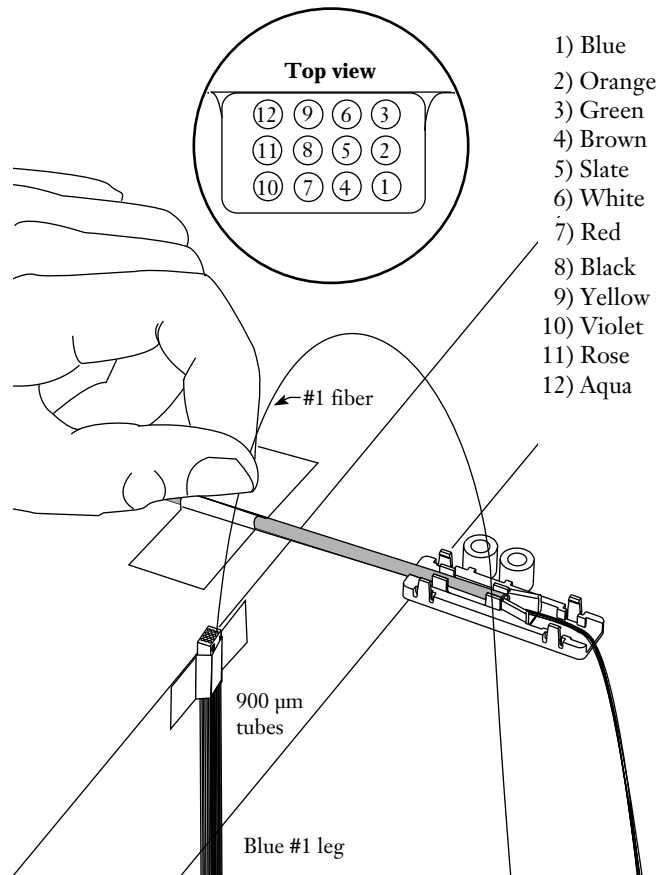

Figure 24
**9.1** Approximately 2 inches (5 cm) off to either side of the tube and BTF bottom, use strapping tape to secure the plastic section of the 900 μm assembly to the table’s edge as shown in Figure 24.
**9.3** Carefully thread about three inches of the first fiber into the #1 900 μm tube (Figure 24).